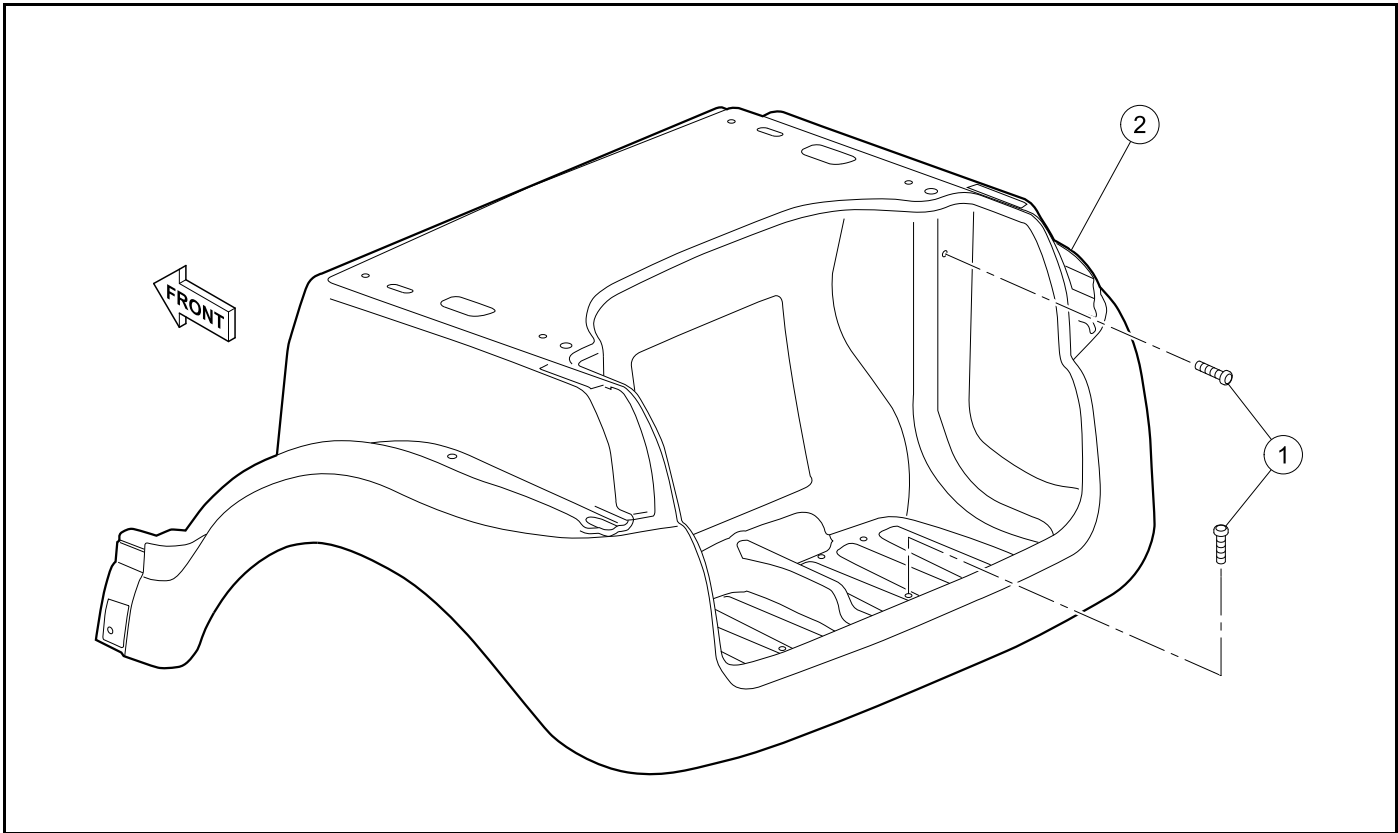

Figure 4-32 Rear Underbody
3. Remove remove the four screws (1) (**Figure 4-32**).
4. Lift the rear edge of the rear underbody (2) until the front portion slides out from beneath the front underbody. Remove the rear underbody from the vehicle.
1. Install the rear underbody (2) onto the vehicle (**Figure 4-32**).
2. Install the four screws (1). Tighten the screws to 71 lb·in (8 N·m).